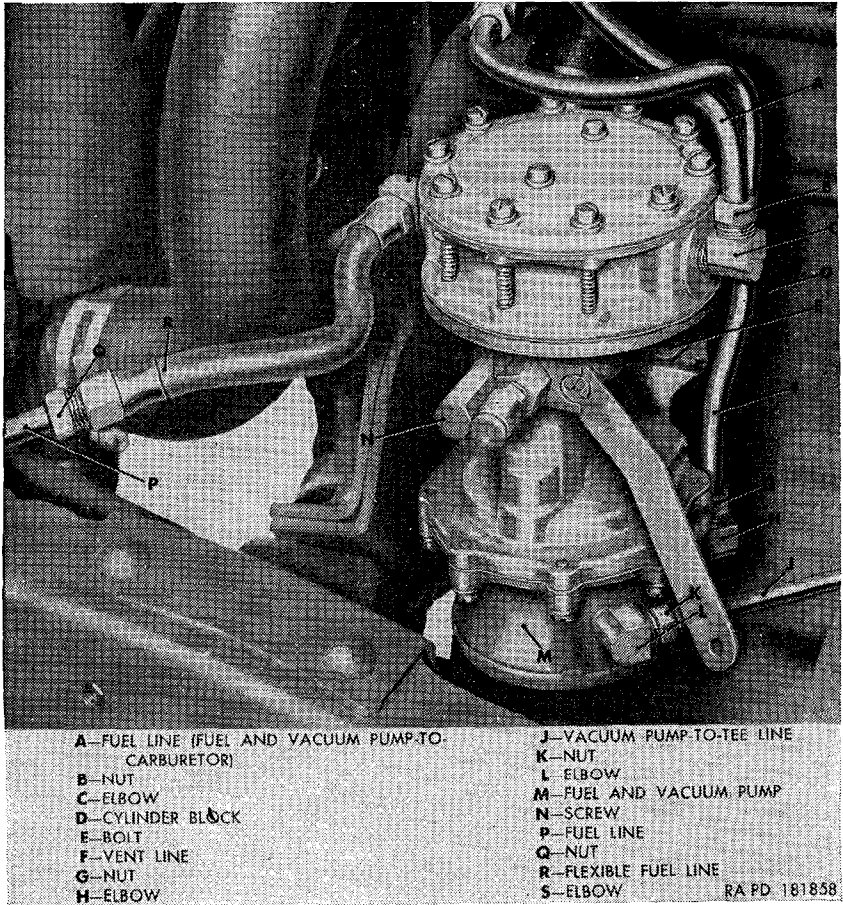

Figure 67. Fuel and vacuum pump assembly—installed.
*Note.* The key letters noted in parentheses refer to figure 67, except where otherwise indicated.